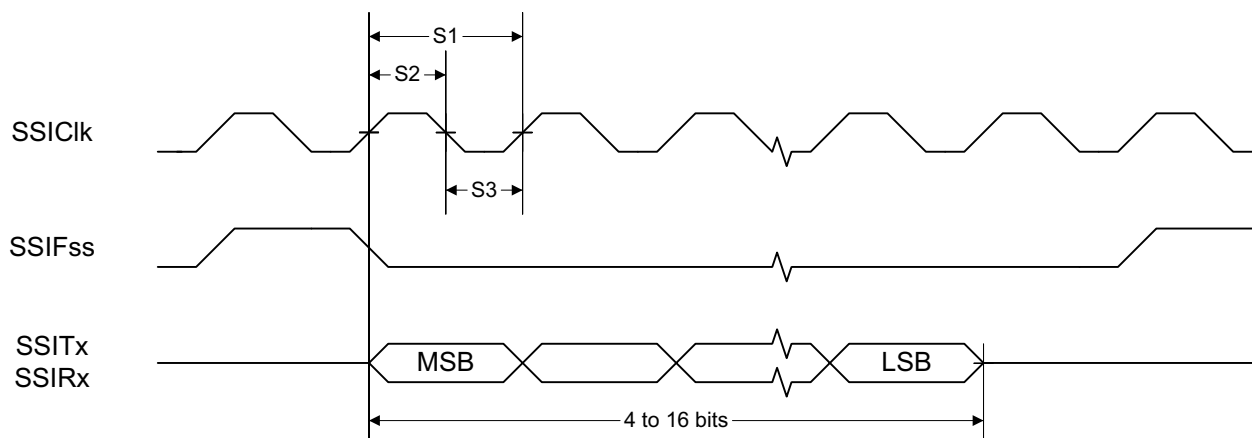
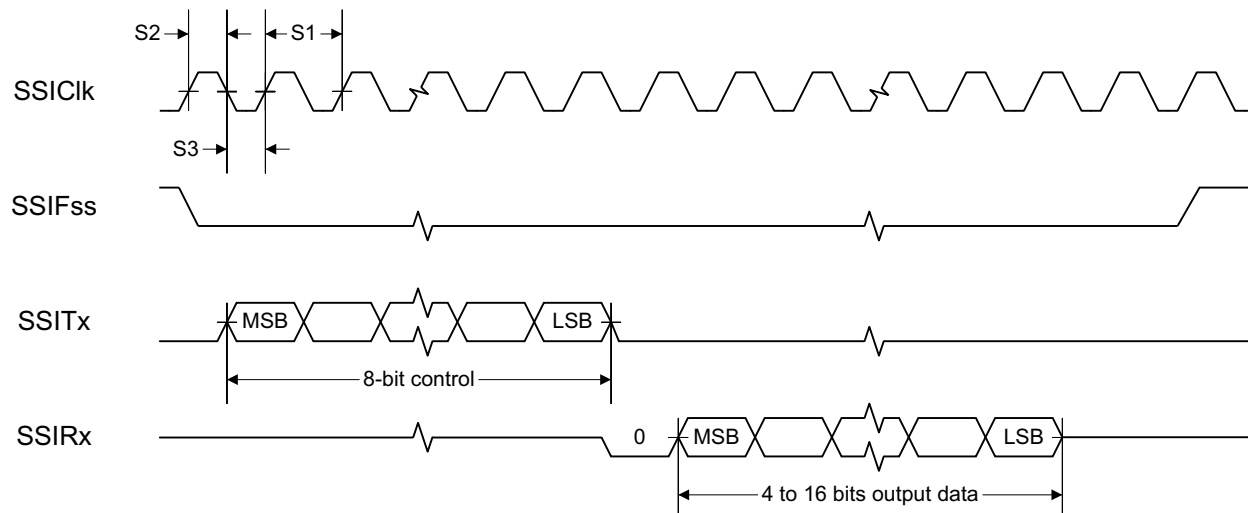
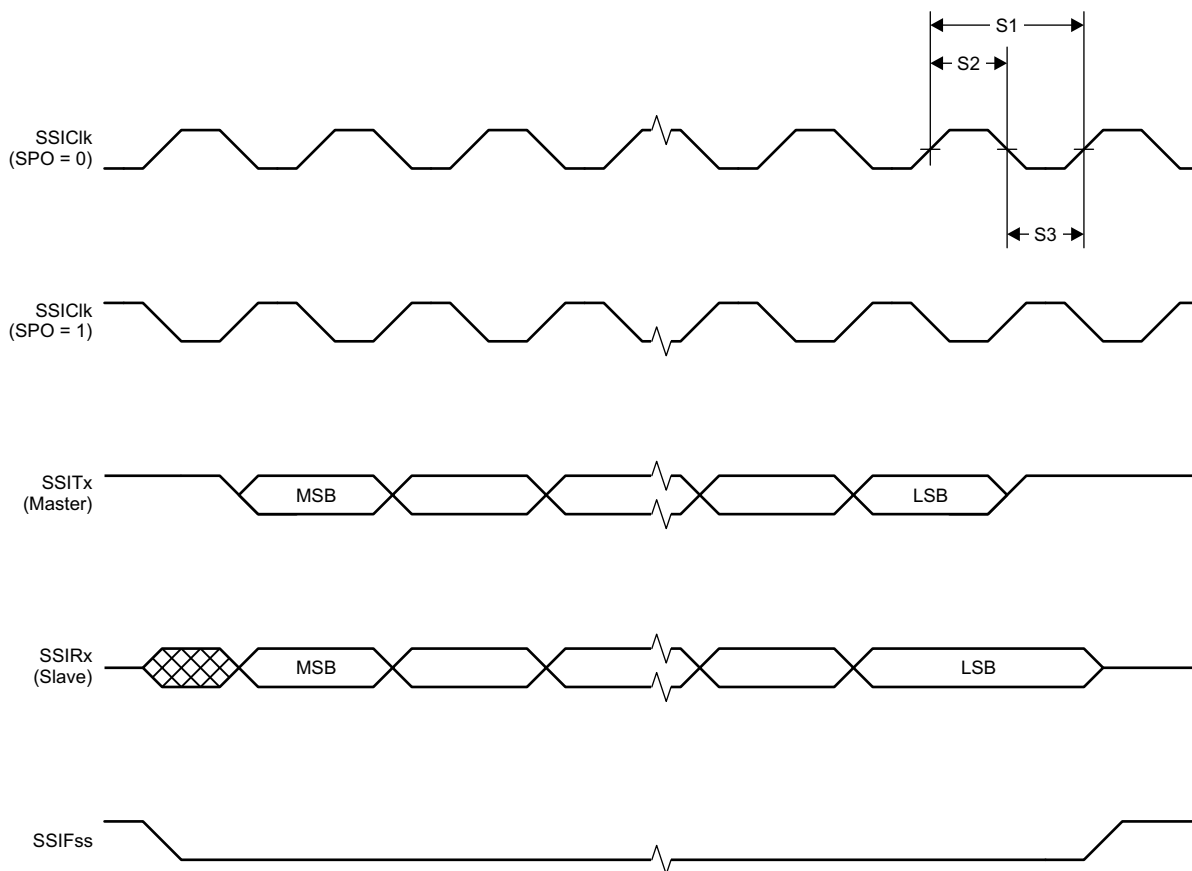

Figure 5-1. SSI Timing for TI Frame Format (FRF = 01), Single Transfer Timing Measurement
Figure 5-2. SSI Timing for MICROWIRE Frame Format (FRF = 10), Single Transfer
Figure 5-3. SSI Timing for SPI Frame Format (FRF = 00), With SPH = 1
- (2) Applications using RCOSC\_LF as sleep timer must also consider the drift in frequency caused by a change in temperature (see Section 5.13).
- (3) TA = -40°C to 85°C, VDD5 = 1.7 V to 3.8 V, unless otherwise noted.
- (4) TC = 25°C, VDD5 = 3.0 V, unless otherwise noted. Device operating as SLAVE. For SSI MASTER operation, see Section 5.23.
- (5) Refer to SSI timing diagrams Figure 5-1, Figure 5-2, and Figure 5-3.
- (1) Device operating as MASTER. For SSI SLAVE operation, see Section 5.22.
- (2) Refer to SSI timing diagrams Figure 5-1, Figure 5-2, and Figure 5-3.